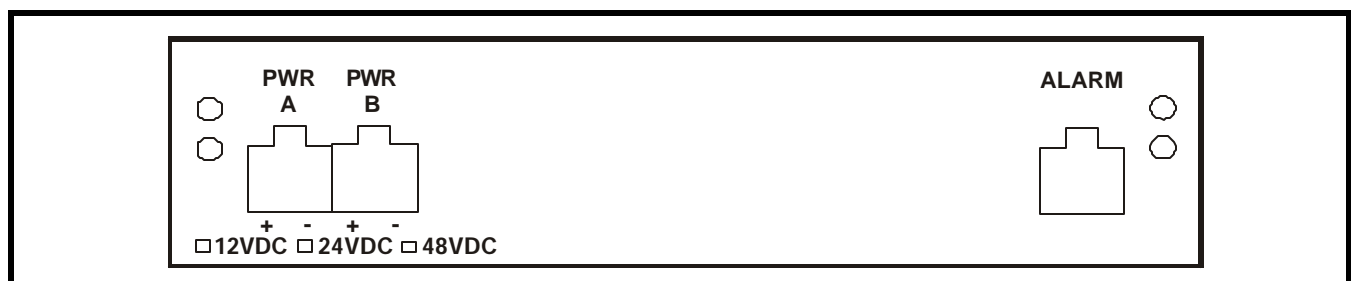

Figure 2. TC3301's Rear Panels
- B. The TC3301's power connectors are two terminal blocks located on the rear panel of the unit. Polarity is indicated under each connector block (see Figure 2).
A terminal block connector on the rear panel (labeled "ALARM") provides for the dry contact relay alarm (see Figure 2). Normally in the OPEN position, any loss of optical signal will trigger an alarm condition and force the switch to the CLOSED position. This relay can be used in conjunction with an external device to monitor the condition of the fiber optic links.